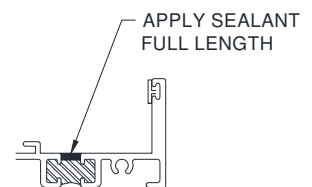

Figure 1:
1. For installations that will be exposed to extreme weather, apply a compatible sealant on top of the thermal break cavity of all sills, t-bars and stack bars (Figure 1).